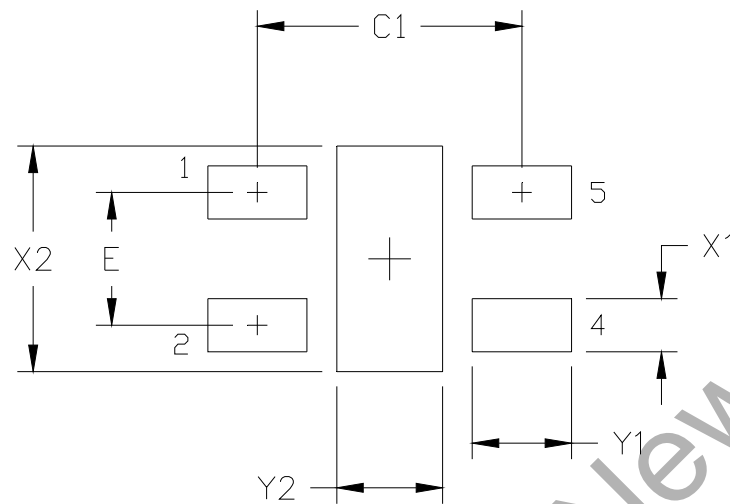

Figure 8. PCB Land Pattern Dimensions
- Corrected pin numbering in Figure 7 and Figure 8.